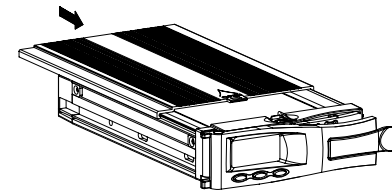

Fig. 6
- Slide the top cover back to the carrier body by sliding forward to secure. (Fig.6)